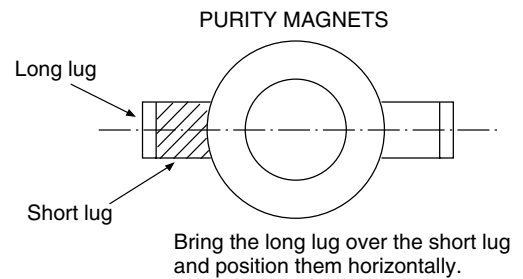

Fig. 2
6. Bring the long lug of the purity magnets on the short lug and position them horizontally. (Fig.2)